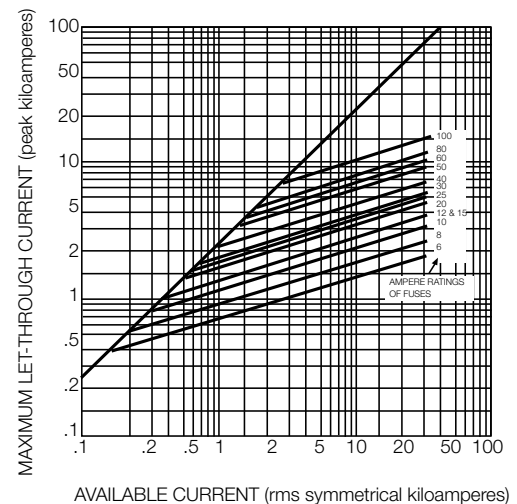

Figure 8. Maximum let-through current for NX current-limiting fuses – 27 and 38 kV.
15.5	2	18.25 (463)	8.94 (227)	2.44 (62)	1.44 (37)	17.81 (452)
** See Figure 8 for dimensional drawing.